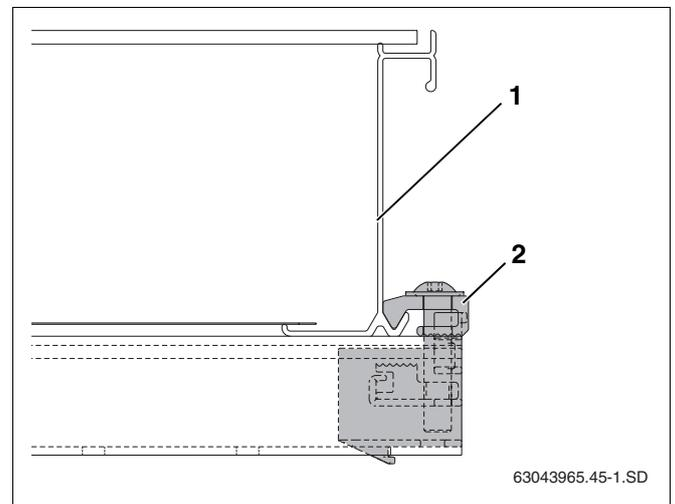

Fig. 46 Single-sided collector clamp screwed in place
- ▶ Carefully push collector (Fig. 46, **Item 1**) up against the single-sided collector clamp and align horizontally.
- ▶ Screw in single-sided collector clamp using size 5 spanner (Fig. 46, **Item 2**).
The grip (Fig. 46, **Item 2**) on the collector clamp now grips the lower collector edge.